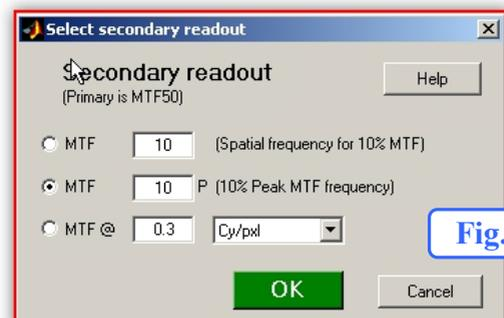

Fig. 14
- Plot:** Introduce the size of your CCD's pixels. I chose plot scale as "cycles/mm", and secondary as "Line Widths per Picture Ht". The later one lets you compare images taken with different CCDs. Check "chromatic aberration" analysis if you want to know how good your glass deals with colours. You can also play around with some other options, but I want to keep it simple. Click "change" under "options" tab and choose your secondary readout. Imatest™ can give you detailed data all across the spatial frequency domain. I chose just to deal with data at MTF50 (resolution at half the contrast domain) and 10% Peak MTF frequency (a good indicator of contrast levels and fine detail correlation, Fig. 14)